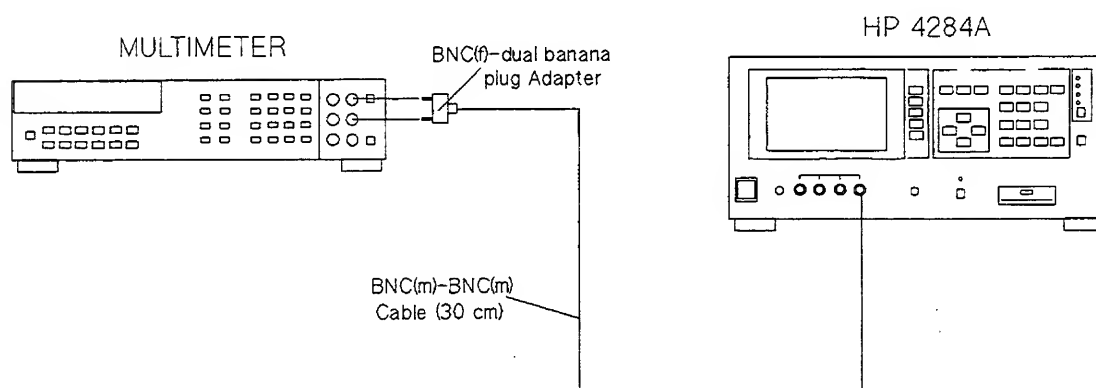

Figure 2-11. Signal Source Adjustment Setup
3. Perform the signal source adjustment according to the program's instruction. Figure 2-11 shows the adjustment setup, Figure 2-12 shows the location of A5R11 (**OSC LVL**).